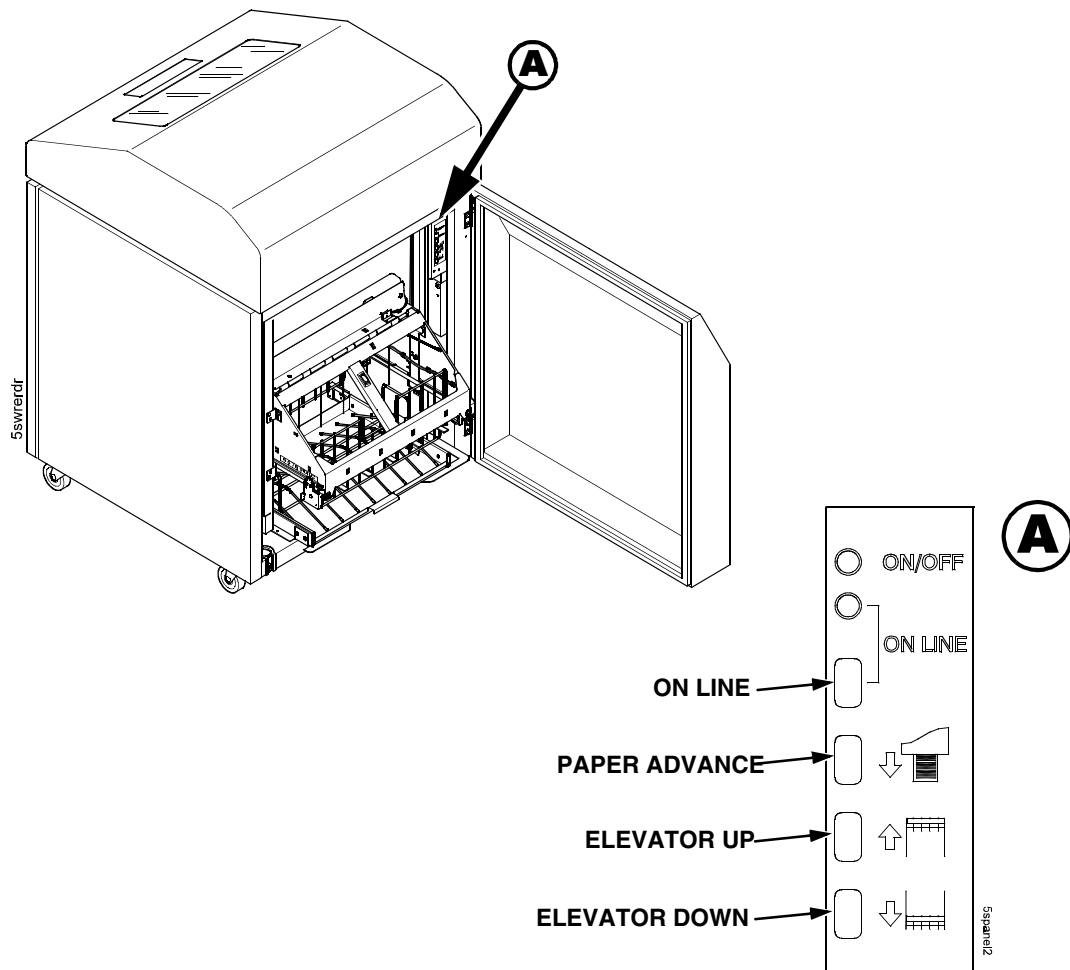

Figure 69. The Rear Control Panel
2. On the rear control panel, press the **ON LINE** key to take the printer offline. (Figure 69.)
3. Press the **ELEVATOR UP** key and wait for the elevator assembly to reach the top of its travel. (Figure 69.)